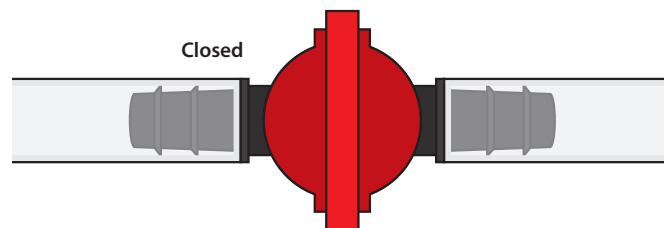
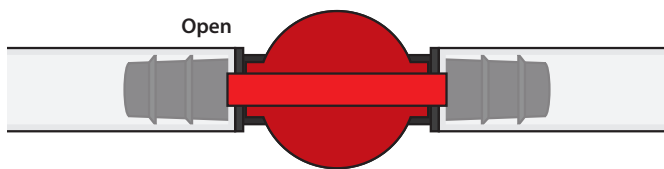

FIG. 13b
FIG. 13c
*Note: If you are not using the automatic bag holding feature of the system, the Switch Valve (H21B) of the Tube Assembly MUST be in the closed position [FIG 13b]. Otherwise leave the Tube Assembly in the open position [FIG 13c].*